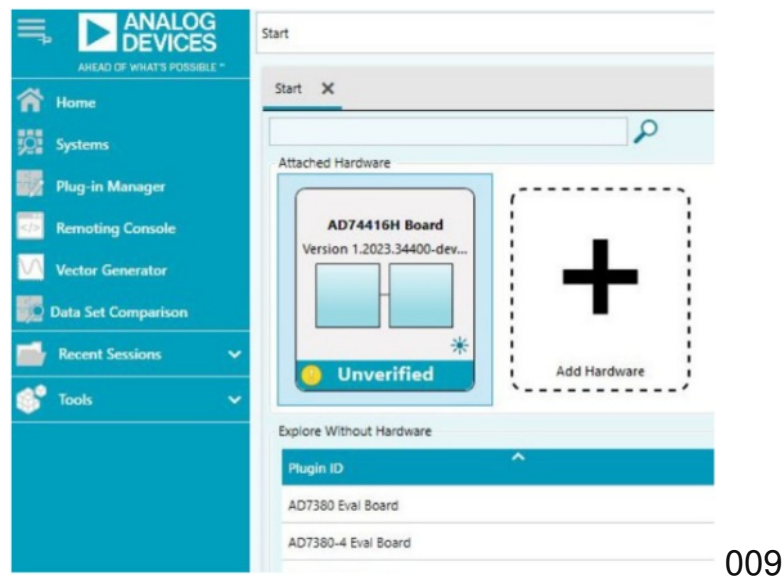

Figure 9. ACE Evaluation Software – Attached Hardware
7. The board appears as **Attached Hardware** (see Figure 9). To continue, double-click the **AD74416H Board** window.